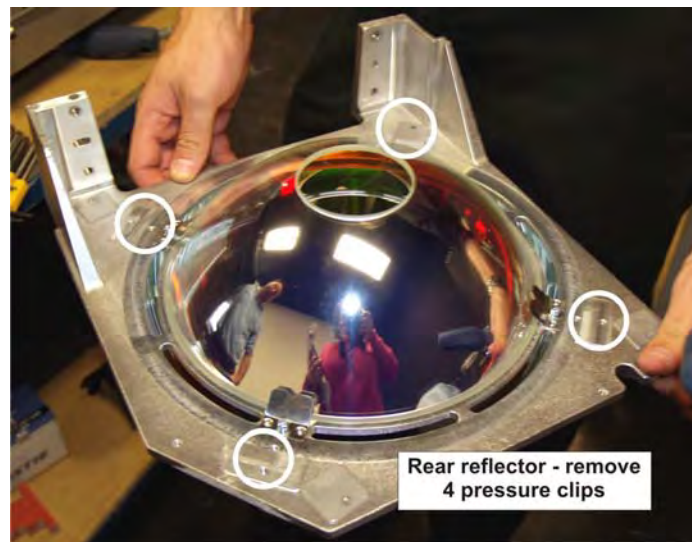

Figure 5-53 Rear Reflector
9. Remove four pressure clips to remove the front and rear reflectors (**Figure 5-53**).